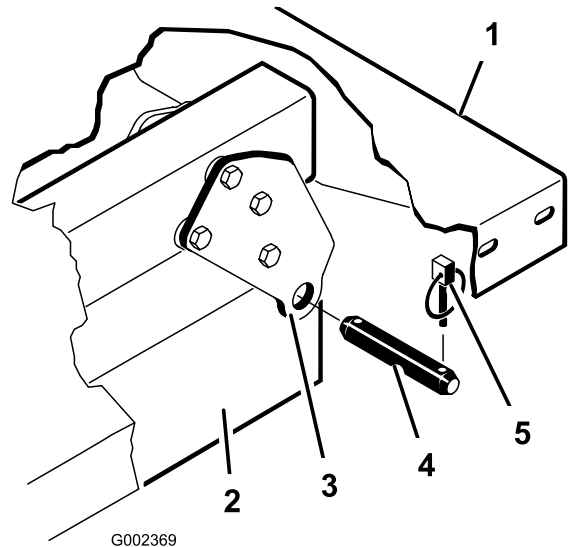

Figure 29
2. Remove the lynch pins and clevis pins securing the pivot brackets to the frame channels (Figure 29).
1. Carefully set the bed onto the vehicle frame aligning the rear bed pivot plate holes with the holes in the rear frame channel and install 2 clevis pins and lynch pins (Figure 29).